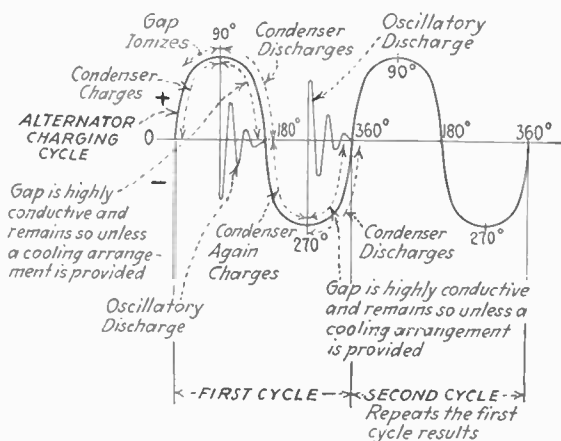

FIG. 23.—Cycle of events in the discharge of a condenser.
*Ans.* Figure 23 illustrates the cycle of events in the discharge of a condenser. From 0 to 90° of the charging cycle, the condenser charges. Electrostatic lines of force are gradually increasing. As the charging cycle approaches 90°, excessive strain is manifested in the vicinity of the spark gap, which results in the breaking up of the air particles between the electrodes into ions. This is called *ionization* (see Ans. 103).